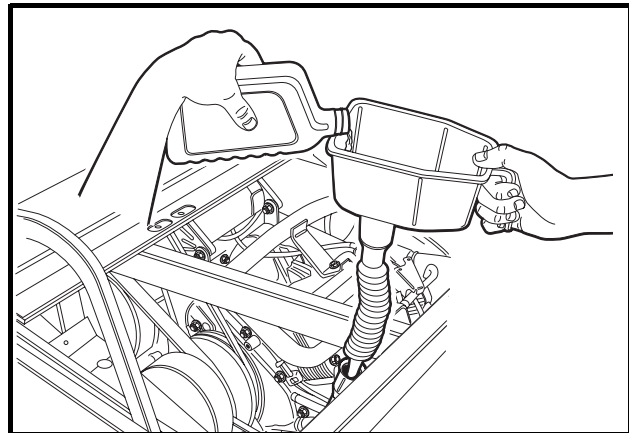
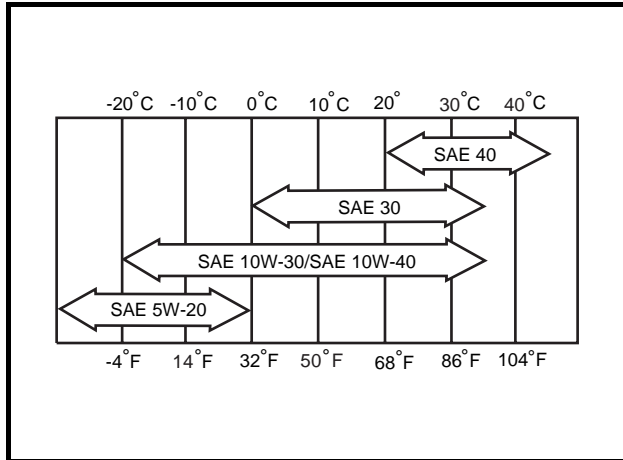

Figure 25 Add Engine Oil
Figure 26 Oil Viscosity Chart
15. Remove the dipstick and add engine oil into the dipstick port. Use a funnel or pour spout to direct the oil into the dipstick port (**Figure 25**). With filter change, the engine requires 38 ounces (1.12 liters) of oil per change. Refer to oil viscosity guidelines for selection of oil grade (**Figure 26**). Replace the dipstick.
Choose the viscosity according to the temperature as indicated by the oil viscosity chart (**Figure 26**).